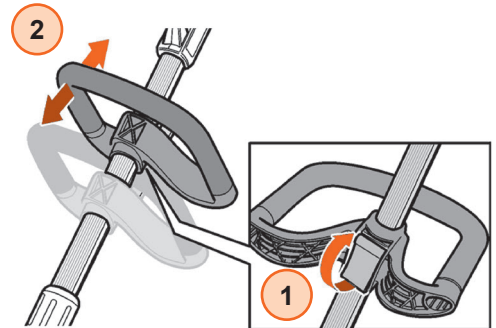

Figure 8
Adjust the handlebar to the height of the user (see Figure 8). Loosen the locking lever on the handlebar ①. Set the handlebar to the required position ②. Secure the handlebar by folding down the locking lever.